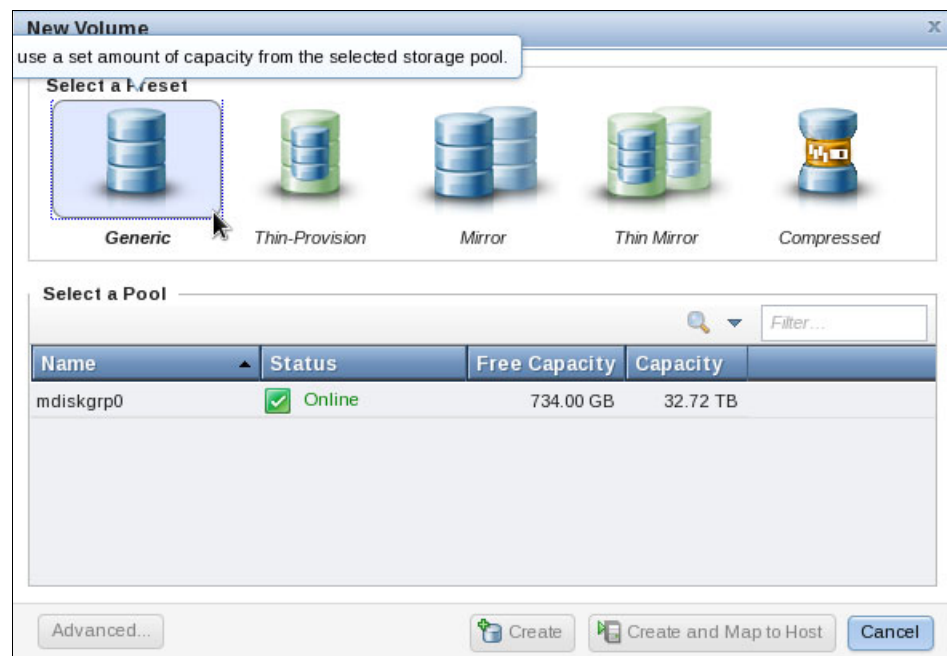

Figure 2-23 Creating a volume
2. In the Volumes window, click **New Volume**. The New Volume window is displayed, as shown in Figure 2-23.